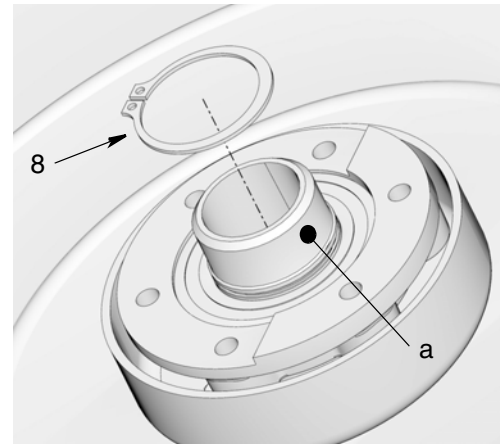

FIG. 37
- b. Install snap ring (8) over shaft on the inlet side, using a snap ring pliers (FIG. 37). Do not scratch the sealing surface (a).